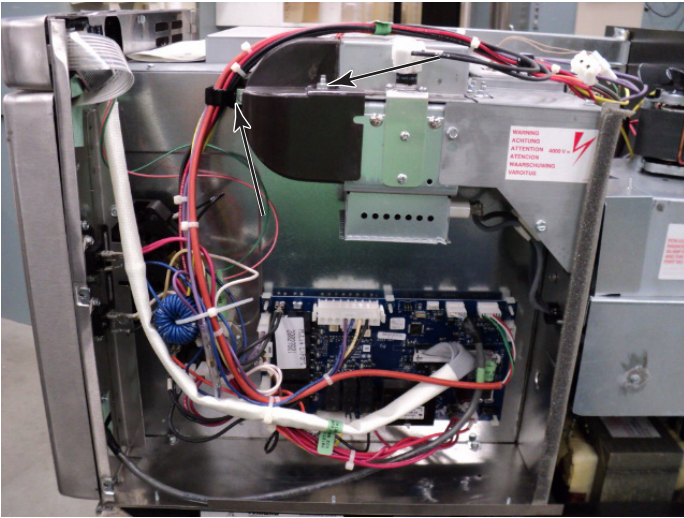

Figure 3
3. Remove screw holding wire harness and outlet air duct to magnetron and remove air duct (Figure 3 & 4).